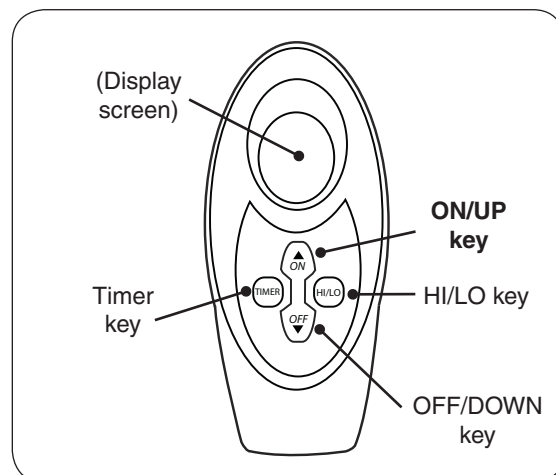

Fig. 13-2 Remote transmitter detail
2. Locate the remote transmitter and press the **ON** key (see Fig. 13-2). The ignition sequence will begin.